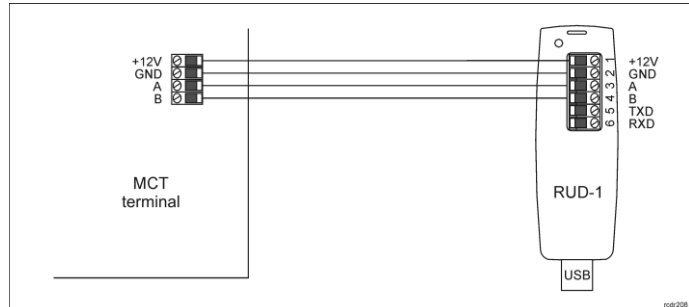

Fig. 1 Connection of MCT reader to RUD-1 interface
1. Connect the device to RUD-1 interface (fig. 1) and connect the RUD-1 to computer's USB port.
The firmware of device can be changed to newer or older version. Main firmware can be uploaded to the terminal by means of included memory card. The keyboard firmware update requires connection to computer with RUD-1 interface (fig. 1) and starting RogerVDM software. The latest firmware file is available at www.roger.pl.